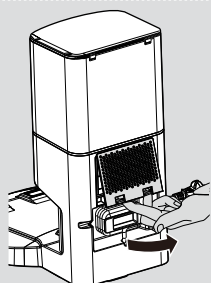

Fig. 10
1. Unclip the exhaust filter cover and remove the exhaust filter. [Fig. 10,11]